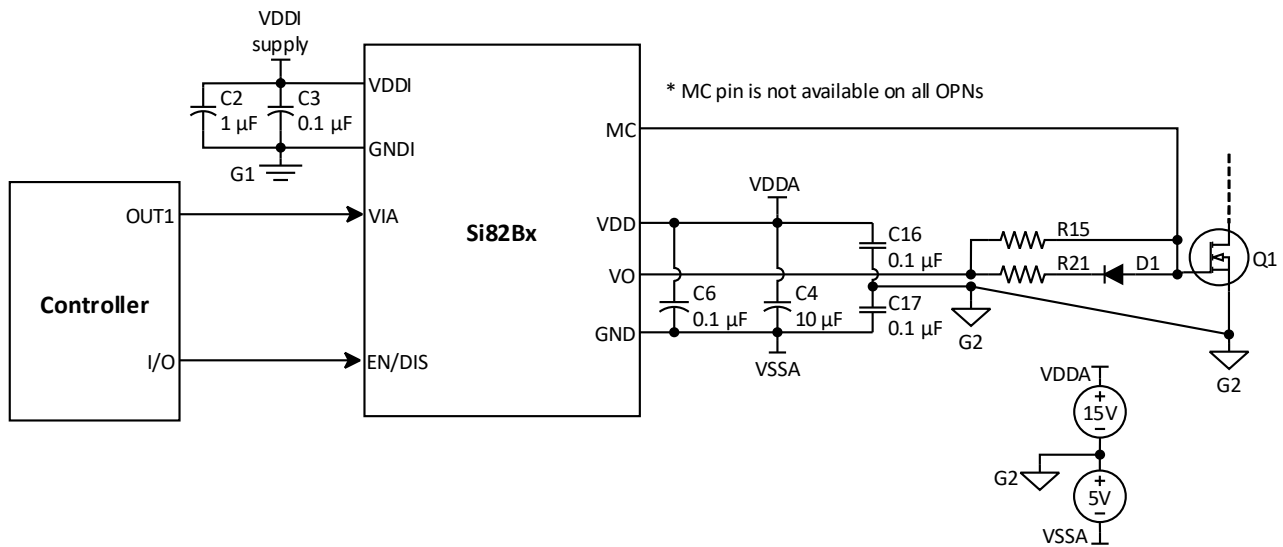

Figure 20. Si82Bx Bipolar Output Connection
The diagram shown in Figure 20, “Si82Bx Bipolar Output Connection,” on page 18 is similar to the above circuits except that the drivers produce the bipolar VGS output voltage. The bipolar VGS output requires the system to provide positive and negative voltage sources. Please note that the bootstrap circuit cannot be used to share the low-side voltage sources with the high-side gate driver for a bipolar VGS output application. In this example, +15 V and –5 V sources are used. The voltage sources' reference G2 is electrically connected to FET Q1's source.
- If the application requires extremely high common mode transient immunity (CMTI) performance, it is recommended to add a 10 nF capacitor between each of the logic input pins and the logic input ground (GNDI), including the no connect (NC) pins. This will help improve the CMTI performance.
- If the system is designed to provide a bipolar V_{GS} output, additional bypass capacitors (C16 and C17 in Figure 20, “Si82Bx Bipolar Output Connection,” on page 18) are required to minimize the return path length of the gate drive signals.